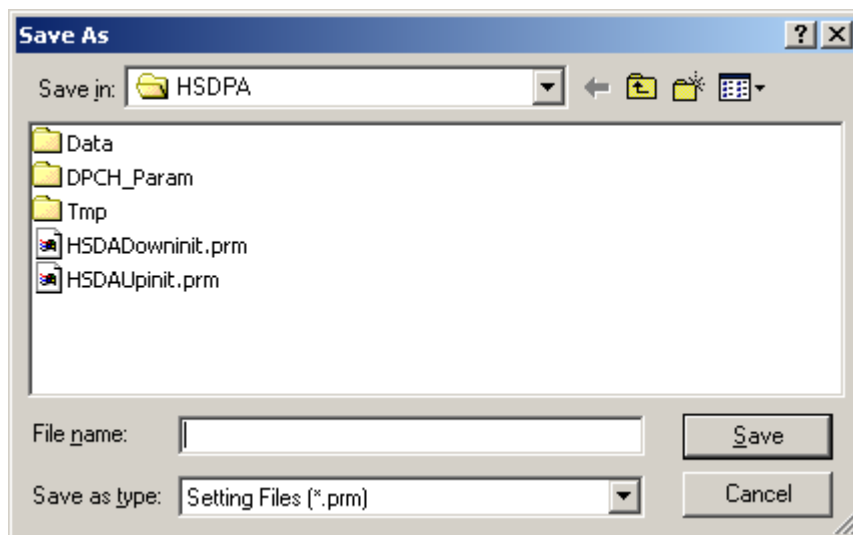

Figure 4.11.5-1 Parameter File Saving Dialog Box
- (1) Select **Save Parameter File** from the **File** menu or click the  tool button to display the parameter file saving screen shown in Figure 4.11.5-1 above.
- (2) Enter a file name in the **File name** text box and click the **Save** button to save the parameter file.